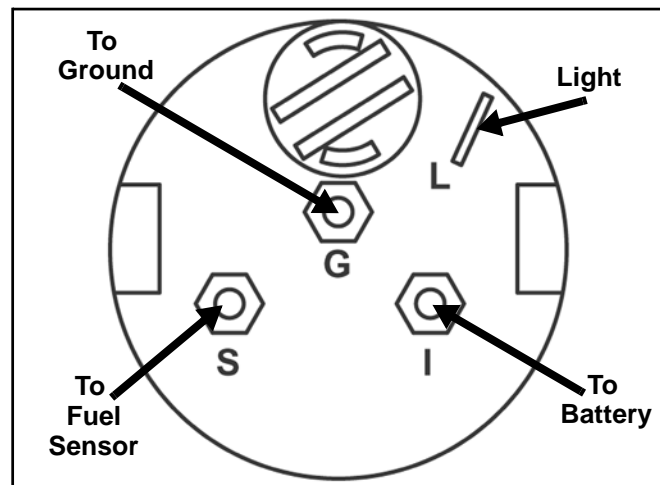

Figure 4
2. Using a VOM, set scale capable of reading 12 volts D.C., connect the negative lead to ground (Figure 4) to verify the conditions in the table below.